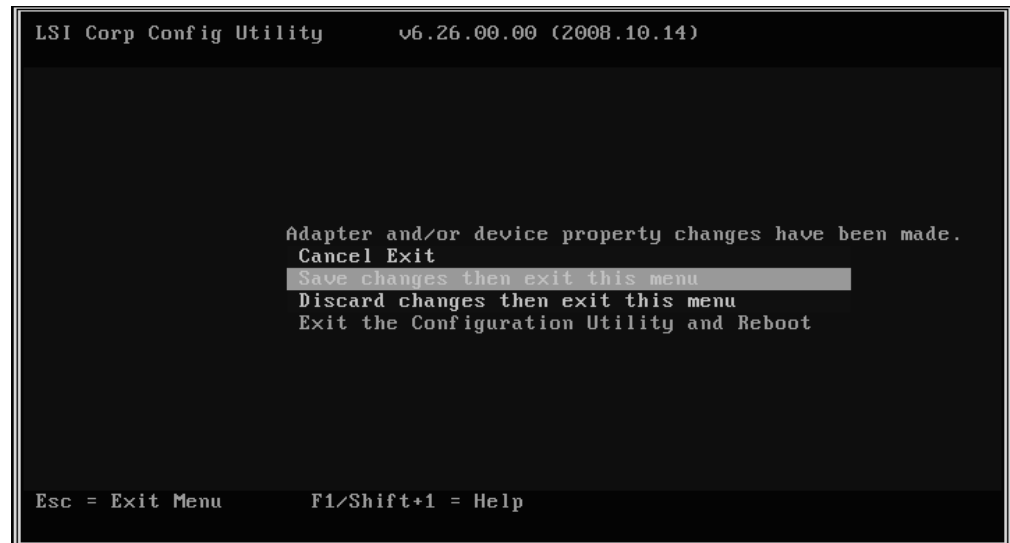

Figure 20. Saving configuration changes for the Onboard SAS Controller
7. Press Esc to exit the Adapter Properties screen until the utility asks you to save the configuration as shown in Figure 20 on page 49.